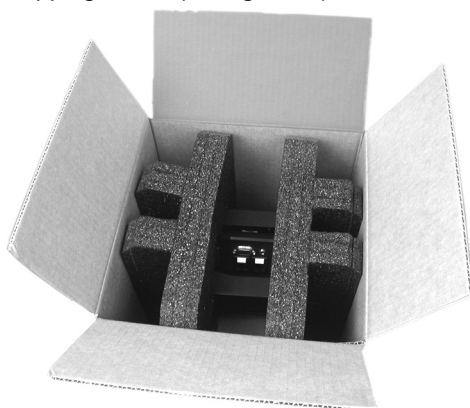

Figure 36. HSA in the Shipping Carton
- 7.** Place the foam-protected HSA 200 or HSA 222 into the shipping carton (see figure 36).